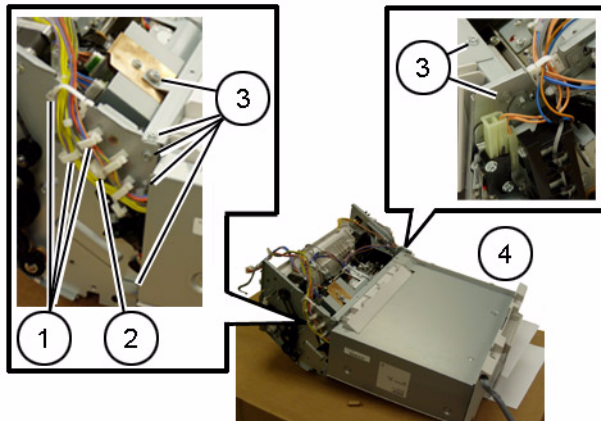

Figure 3 Removing the Stacker Tray
9. Remove the Stacker Tray (Figure 3):